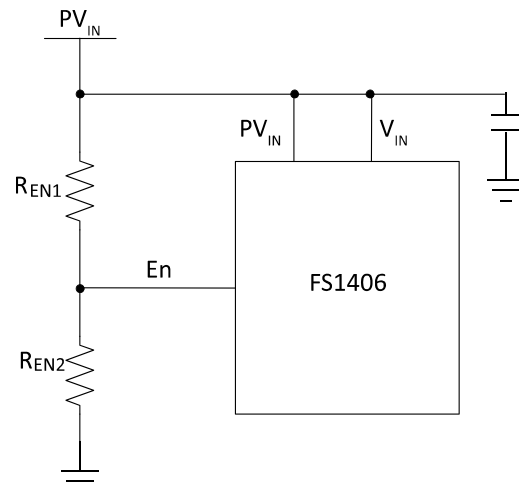
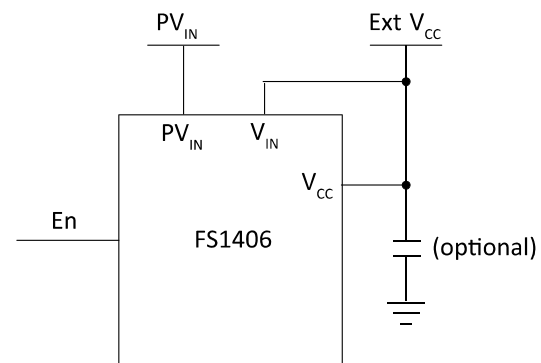

Figure 6 Single supply configuration: internal LDO regulator, adjustable PV_{IN_UVLO}
Figure 7 Using an external bias voltage
The FS1406 has an integrated Low Drop-Out (LDO) regulator, providing the DC bias voltage for the internal circuitry. The typical LDO regulator output voltage is 5.2V. For internally biased single-rail operation, the V_{IN} pin should be connected to the PV_{IN} pin (Figure 6). If an external bias voltage is used, the V_{IN} pin should be connected to the V_{CC} pin to bypass the internal LDO regulator (Figure 7).
- It can be used to implement a precise input voltage UVLO. The input of the En pin is derived from the PV_{IN} voltage by a set of resistive dividers, R_{EN1} and R_{EN2} (Figure 6). Users can program the UVLO threshold voltage by selecting different ratios. This is a useful feature that stops the FS1406 regulating when PV_{IN} is lower than the desired voltage.